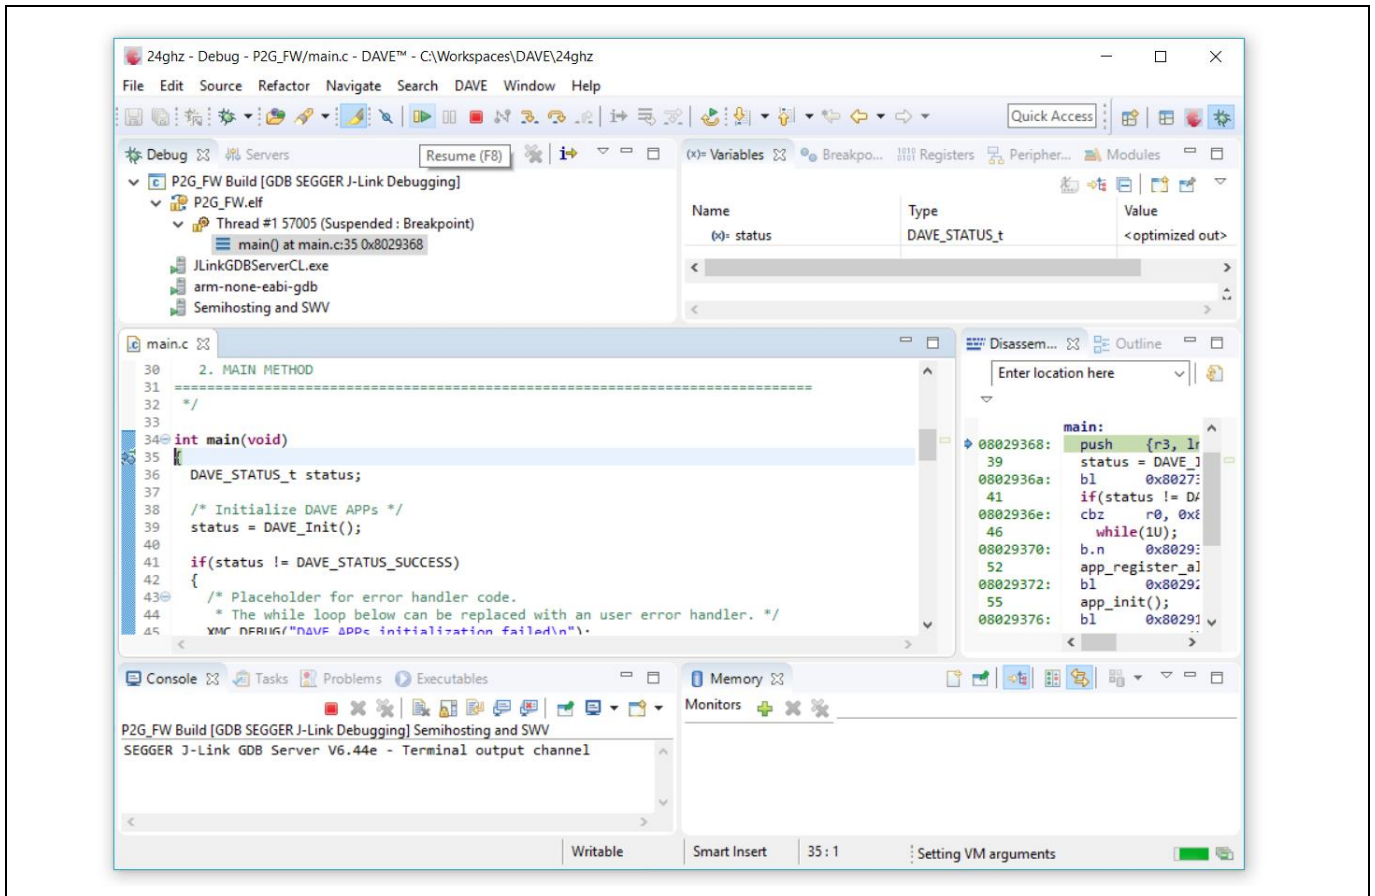

Figure 30 DAVE™ debug perspective
- In this way, the Flashing process is started, the firmware image is loaded into the XMC™ microcontroller Flash memory and DAVE™ automatically switches to the debug perspective, as shown in Figure 30.